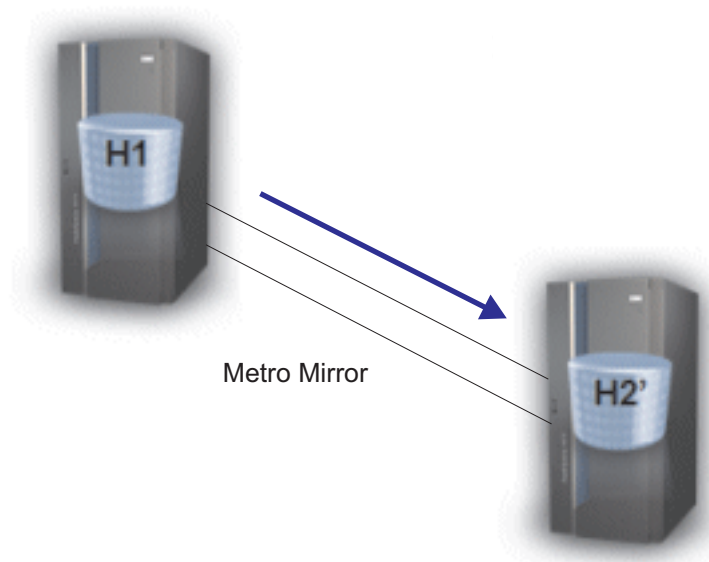

Figure 31. Configuration after Migration
5. Remove the original secondary volume, H2. Figure 31 on page 377 shows the result.